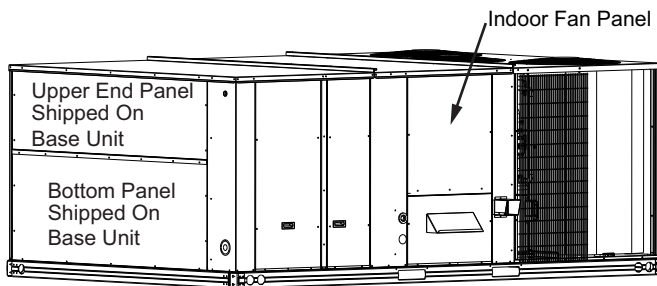

Fig. 17 — Upper and Bottom Panel on End of Unit
3. Remove the upper panel and bottom panel (provided with the HVAC unit). On the end of the unit to expose the return section. (See Fig. 17.) Save the screws for use later when replacing the panel. The panels can be discarded.
9. Remove the indoor-fan motor access panel. (See Fig.17.)